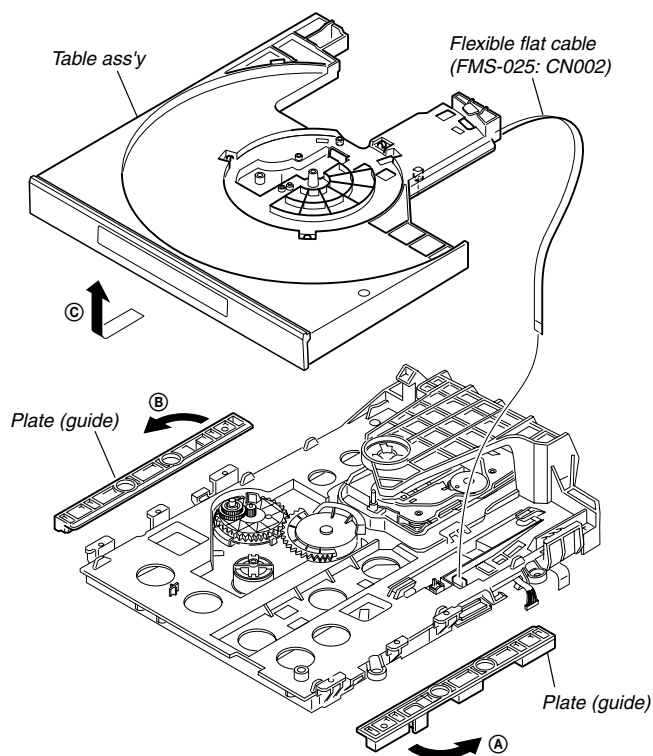

Fig. 4.
- 2) Remove the two Plates (guide) in the direction of the arrows ② and ③. (See Fig. 4)
- 3) Remove the Table ass'y in the direction of the arrow ④. (See Fig. 4)
- 4) Remove the Flexible flat cable (See Fig. 4).